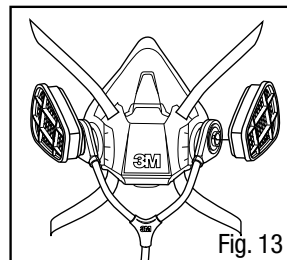

Fig. 13
3. Make a selection of cartridges and/or filters that meets your respiratory protection requirements, and attach to the outer bayonets of SA-1600 or SA-2600 breathing tubes (Fig. 13).